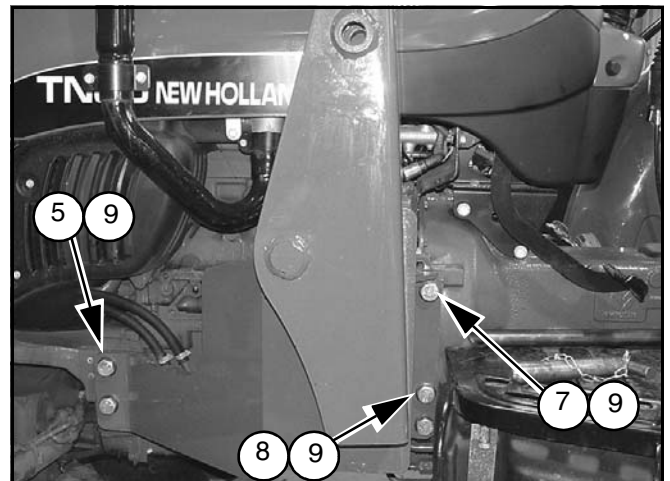

Figure 2. Left Rear Mount Installed
1. Attach right rear mount (1) to tractor.
2. Secure using one cap screw (7) and hardened flat washer (9) in the top hole.
3. Secure to bottom holes using two cap screws (8) and hardened flat washers (9).
4. Secure to forward holes using two cap screws (5) and hardened flat washers (9).
5. Repeat steps to install left rear mount (2). See Figure 2.